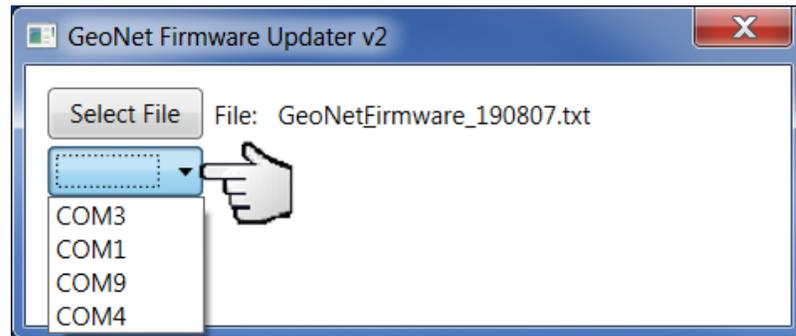

Figure 34 - Select COM Port
- 15) Using the drop-down box below the “Select File” button, select the correct serial port for the 8001-7 cable (Figure 34). To identify which serial port the unit is connected to, complete the following: